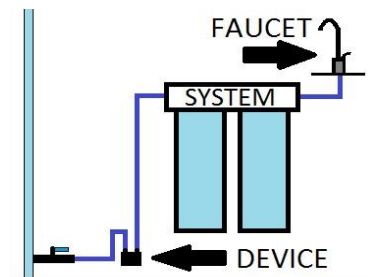
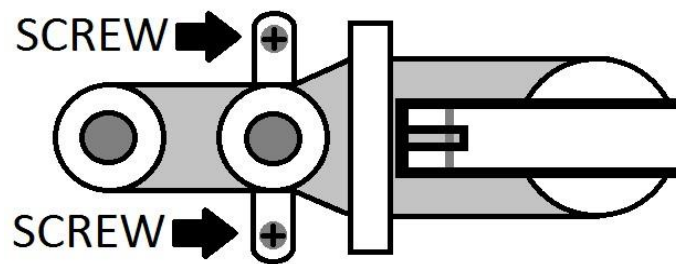
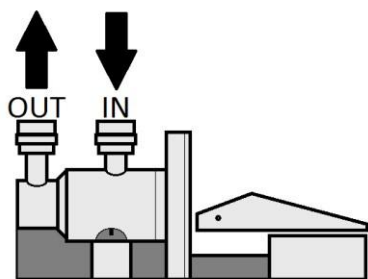

Figure 1
Figure 2
Figure 3
1. Place the device below and to the side of your system as per Figure 1 and screw it down using the two screws which go into the screw holes on either side of the device (Figure 2).
2. Connect your tubing to the device. This device should be installed on the inlet line before the filter unit as per Figure 1, the connection points should be plumbed as per Figure 3. This device is fitted with quick-fit fittings, simply cut the tubing cleanly and push the tube into the fittings until it drops in and seals fully. If the fitting leaks you may need to push it in further.